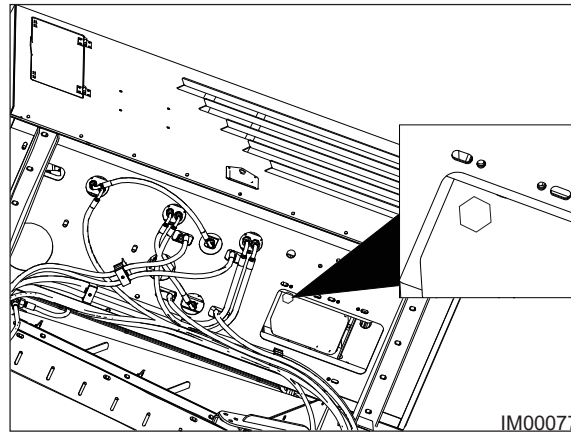

Fig: 11.13 - Engine Sump
5. Remove the drain plug from the engine sump (Fig: 11.13) and allow all of the oil to drain into the container.